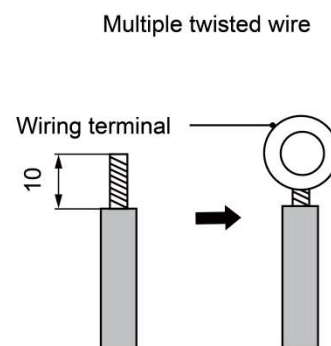

Fig.5.1.2
- (2) Connection of multi-twisted wire (as shown in Fig.5.1.2)